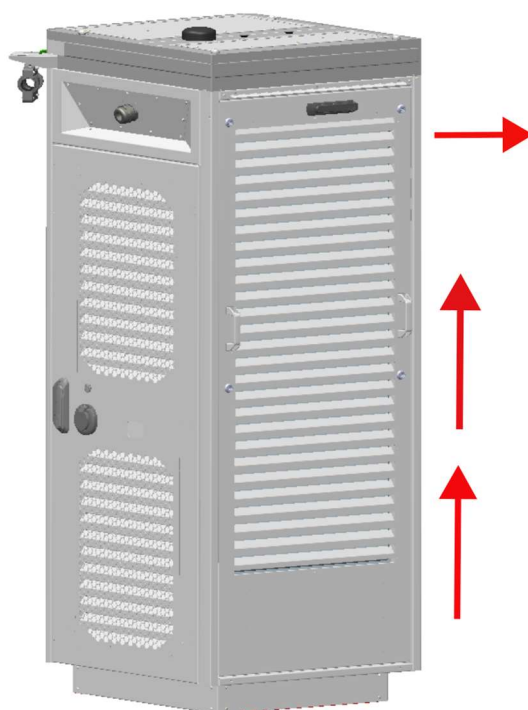

Figure 20 Removing the rear door
- holding the handles, lift the rear doors and pull them towards you (*Figure 20*).